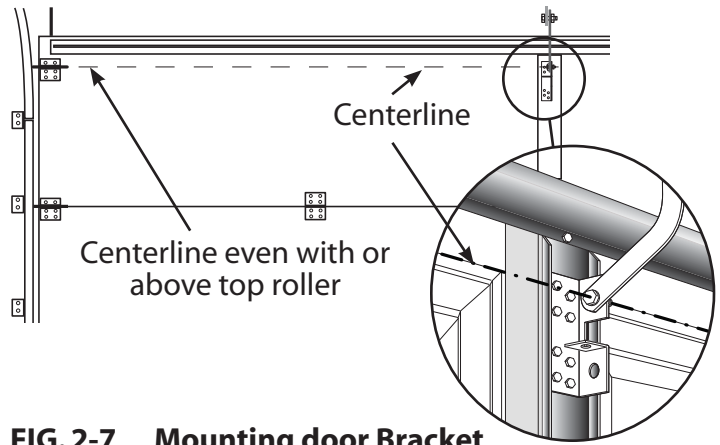

FIG. 2-7 Mounting door Bracket
- Door bracket is mounted as high on door as possible along vertical centerline and NO LOWER THAN top set of rollers (Fig. 2-7).